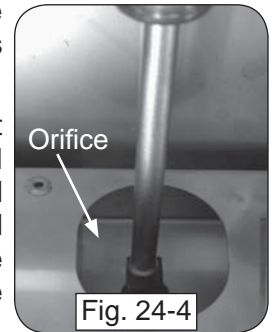

Fig. 24-4
5. Use a $\frac{3}{8}$ " hex nut driver to remove the exposed orifice (Fig. 24-4) and replace it with the correct orifice for the new gas. (See Table 1 at the beginning of this document for orifice sizes.)